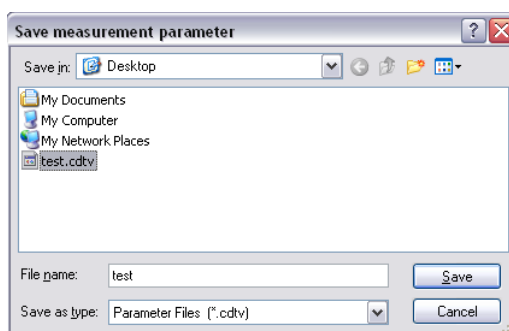

Figure 4.10 [Save measurement parameters] dialog box
- (2) Select a location to save the parameters by clicking the arrow on the top of the [Save in] box (in Figure. 4.10, "Desktop" is selected).
- (3) Input a filename in the [Filename] text box. The extension (the letters that appear the letters appearing after ".") need not be entered. The output file is saved as a .cdtv format